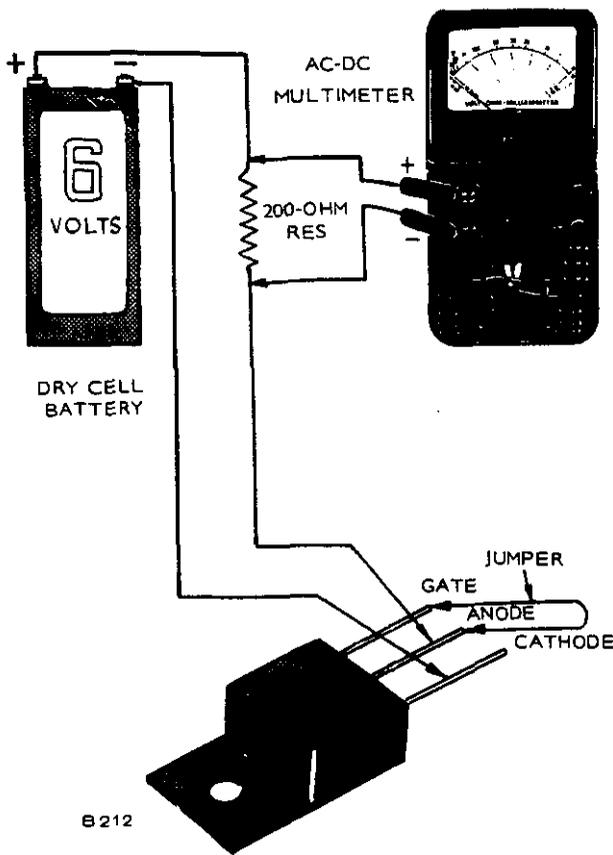

FIGURE 13. SCR VOLTAGE TEST
3. Using a 6-volt dry cell battery and a 200-ohm series resistor, observe correct polarity and connect battery leads to **anode and cathode** as shown in Figure 13. Observe polarity and connect a DC voltmeter across the 200 ohm resistor. The voltmeter should now read zero. Jumper anode to gate; voltmeter should now read 6-volts. Remove jumper; voltmeter should still read 6-volts because the SCR remains turned on until voltage is removed from anode to cathode.